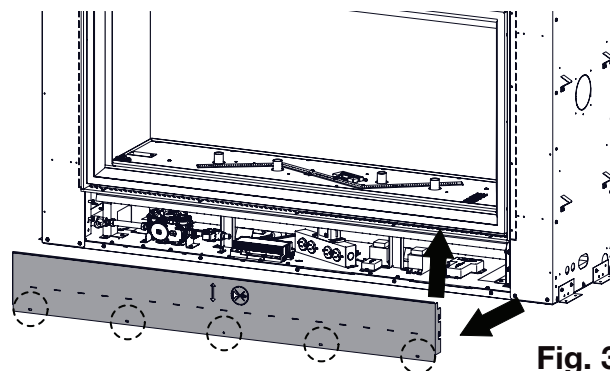

Fig. 3
3. Remove the front cover by uninstalling the bottom screws, lifting the cover up and out (**Fig. 3**).